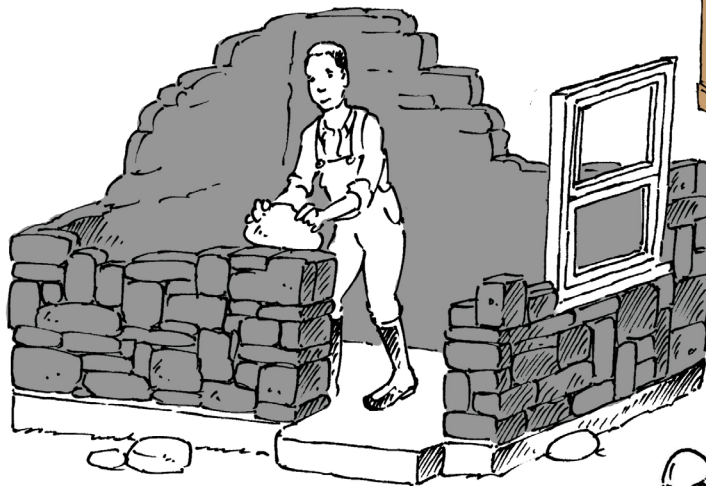

Figure 10: House C
3. (a) What material is being used to build the house in Figure 10?
- (c) What tools are being used by the people building the house in Figure 10?